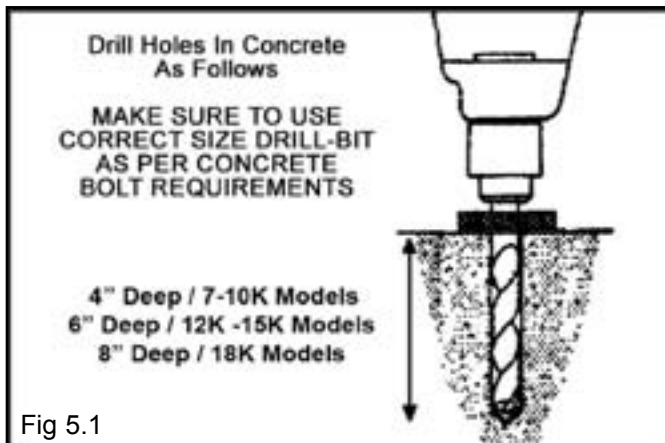

Fig 5.1
2. Using the base plate on the POWERSIDE column as a guide, drill each anchor hole in the concrete (approximately 4" deep for 10K models and 6" deep for 12K and 15K; 8" for 18K models) using a rotary hammer drill and 3/4" concrete drill-bit. To assure full holding power, do not ream the hole or allow the drill to wobble. (See Fig. 5.1)